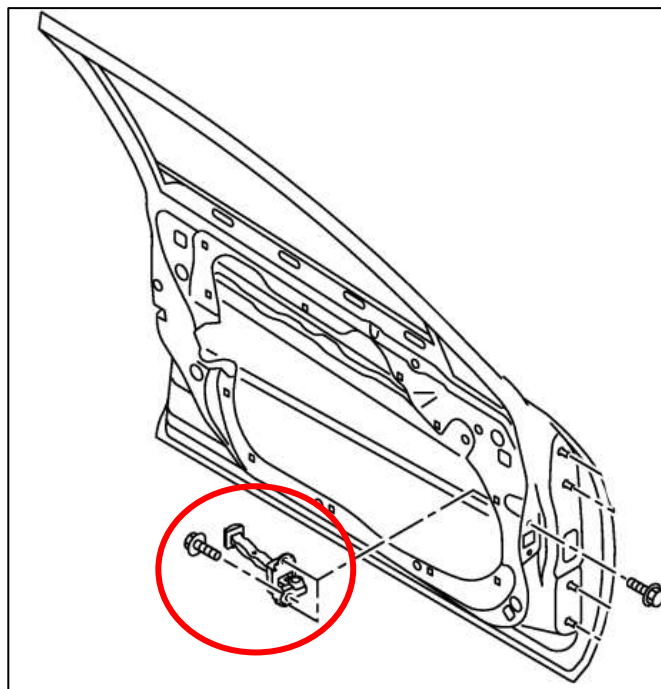

Figure 63
12. Once the bolts are removed, pull the Check Link through the Speaker hole in the door. *Figure 63.*